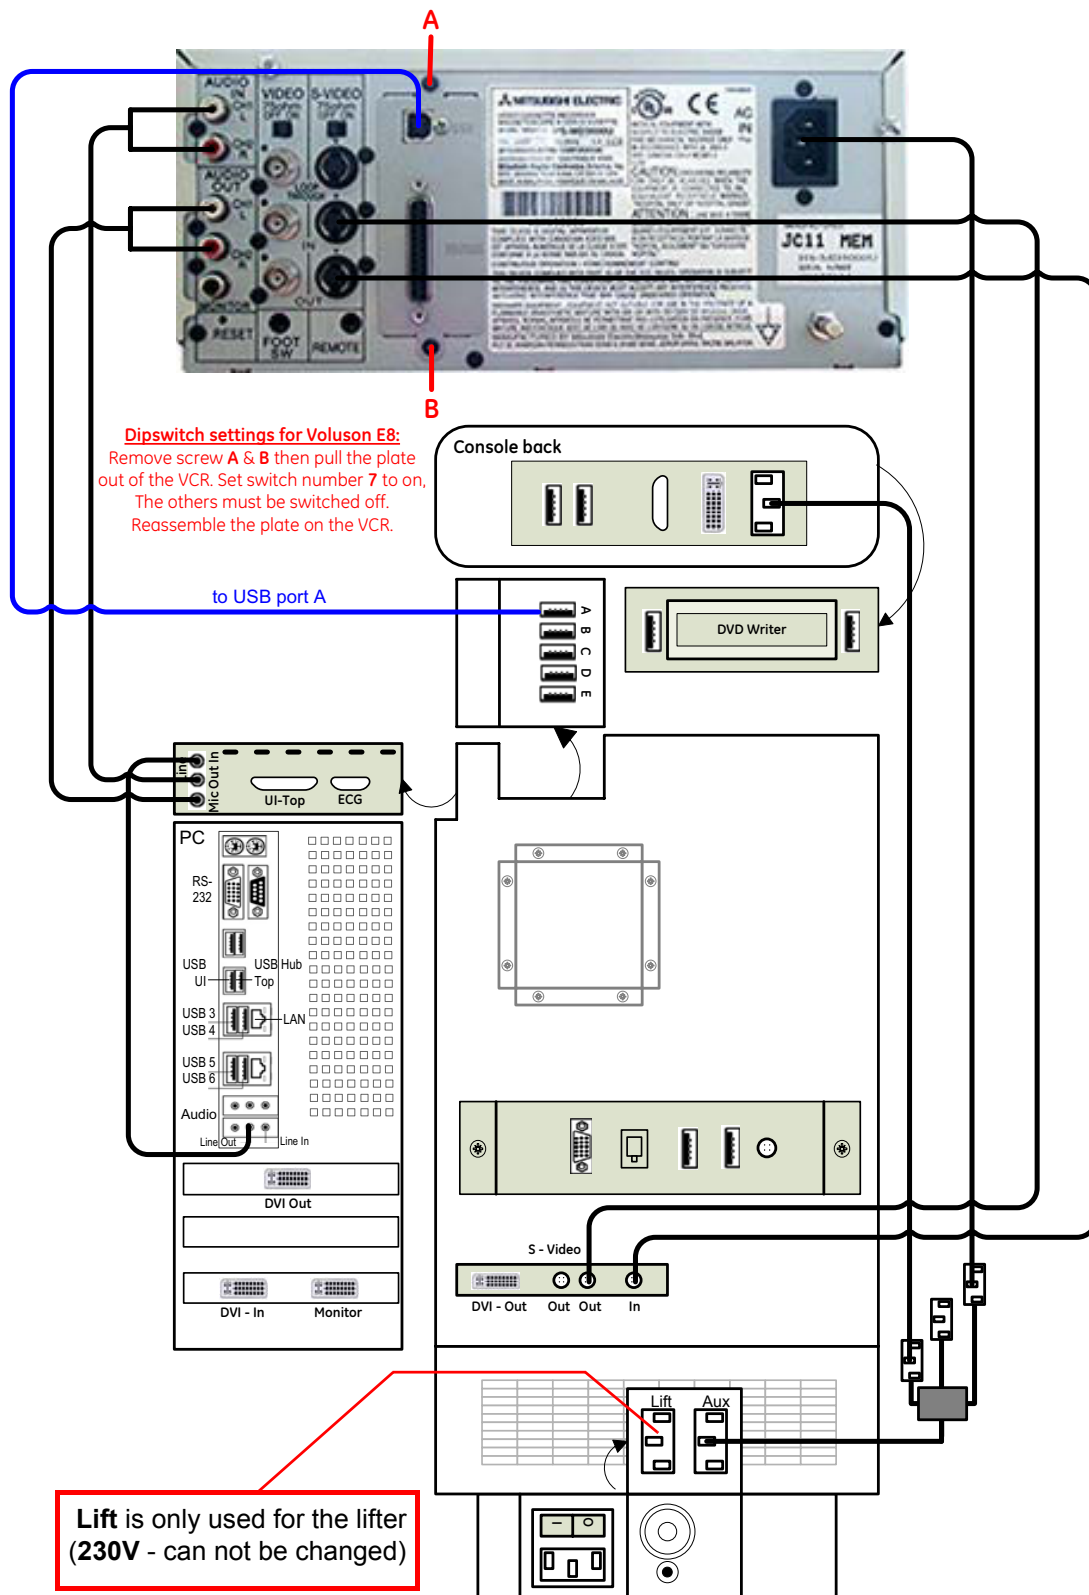

Figure 3-20 Video Recorder connection (BT08: KONTRON Dual-core PC-Motherboard installed)
- if "**Kontron Dual-core**" PC-Motherboard is installed, see: Figure 3-20 on page 3-27.